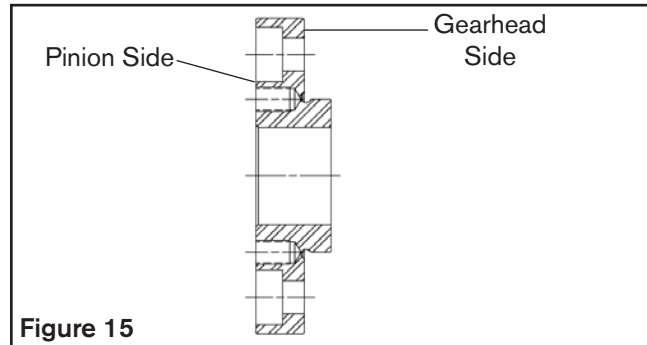

Figure 15
5. Clean the adapter flange and pilot where it will contact the gearhead flange inspecting for contaminates, burs, or surface defects that would interfere with full contact between the adapter and gearhead flange. See Figure 15.